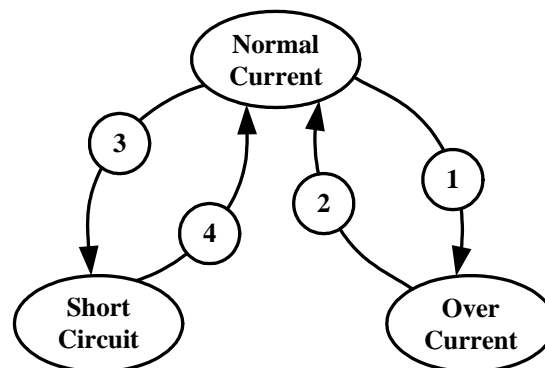

Fig.3 OC&SC State Machine
**Description of States (Fig. 3)**
**Transition Description (Fig. 3)**